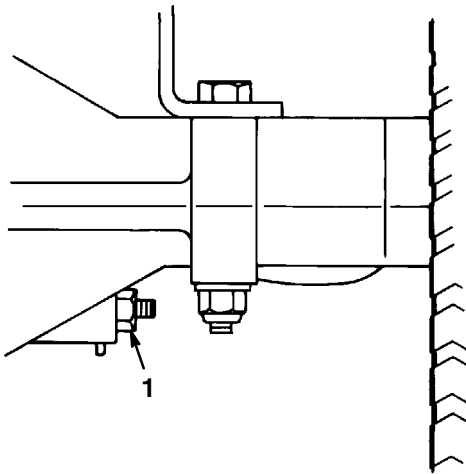

Figure 15
The brake is on the right side of the rear axle, inside the rear tire (Fig. 15). If the brake does not hold securely or stopping power is insufficient, an adjustment is required.
2. To increase braking resistance, tighten the brake adjusting nut (Fig. 15) 1/8 turn clockwise; then check the brake again. Continue this adjusting and checking process until the brake is set properly.